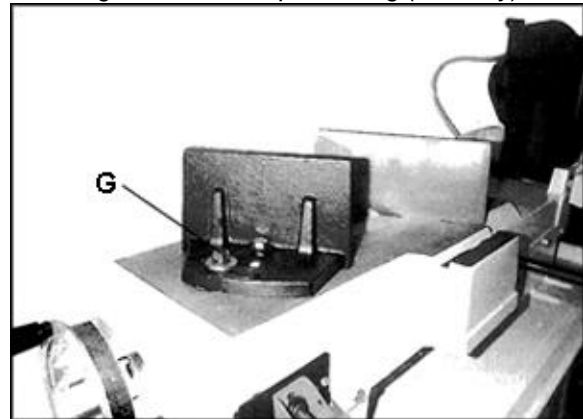

Figure 8-18: vise positioning (712 only)
- 4) Adjust floating vise parallel to fixed vise by loosening bolt (G, Figure 8-18), adjusting to parallel, and tightening bolt.